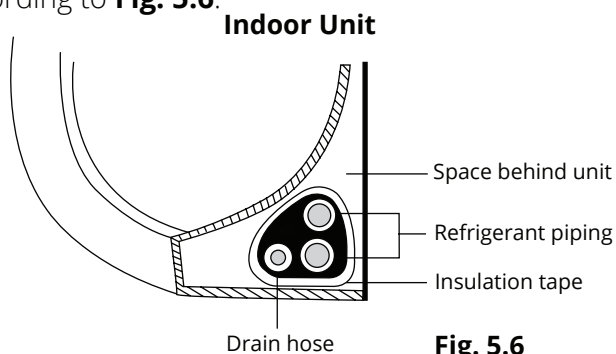

Fig. 5.6
1. Bundle the drain hose and refrigerant pipes according to **Fig. 5.6**.
3. Using insulation tape, wrap the refrigerant pipes and drain hose tightly together. See **Fig. 5.7** for example. Double-check that all items are bundled in accordance with **Fig. 5.6**.